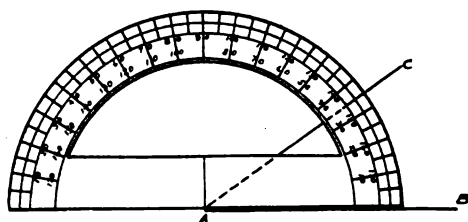

Fig. 3
12. *Protractors*.—When it is necessary to lay off angles which are not given by the triangles, a protractor, such as is shown in Fig. 3 is used. Protractors are made of metal, wood, rubber, horn, celluloid or paper, but for mechanical drawing work the metal or celluloid ones are to be preferred. They are usually made semi-circular in form, having a reference line near the bottom and lines on its rim, which are drawn radially from the middle point of the reference line. The various degrees are marked on the rim. When using the protractor, place the center A at the vertex of the desired angle, as shown in Fig. 3, and lay the base of the protractor so that the reference line will coincide with the base line of the desired angle. Now make a small mark at point C, which is opposite the desired angle; in this case the angle is 35 degrees. Now remove the protractor and draw the line